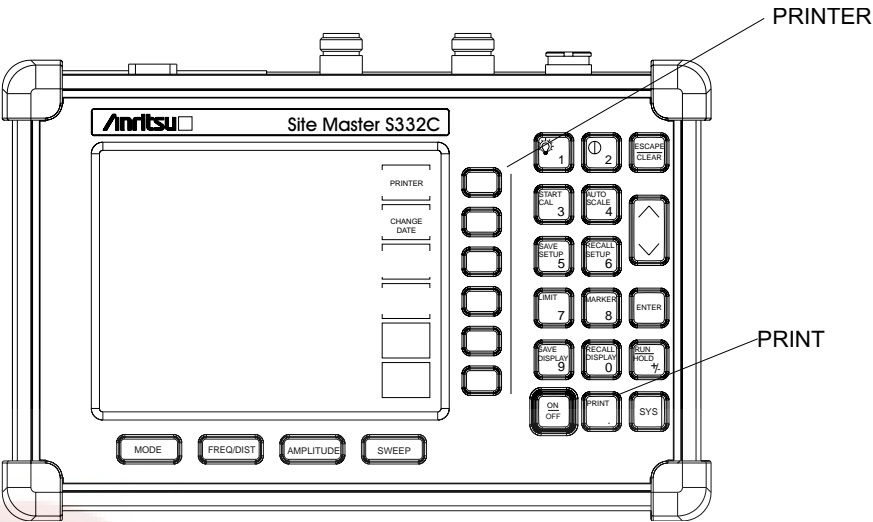

Figure 3-6-. PRINTER Soft Key and PRINT Key
- Step 5.** Press the **PRINT** key. (Figure 3-6).